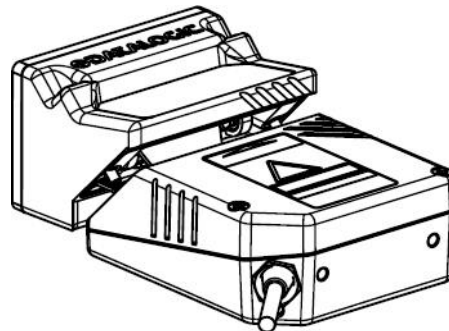

Figure 34 –Mount OM2000N
- 4) Check that the seal is correctly positioned and then after having aligned the OM2000N onto the scanner, fix it using the two TORX M3x30 cover screws (80cNm Torque) (see Figure 34).